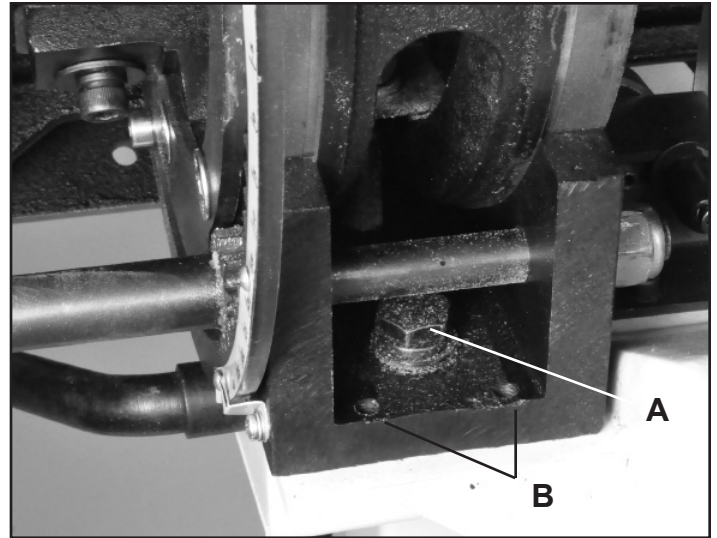

FIGURE 13
1. On the lower Trunnion Support (#17B), slightly loosen the two Hex Bolts (#13B) that hold the support to the bandsaw frame. Fig. 13, A.
3. Using the 3mm hex wrench, turn the rear trunnion micro adjusting hex screws (#16B) to adjust the table position. Fig. 13, B.